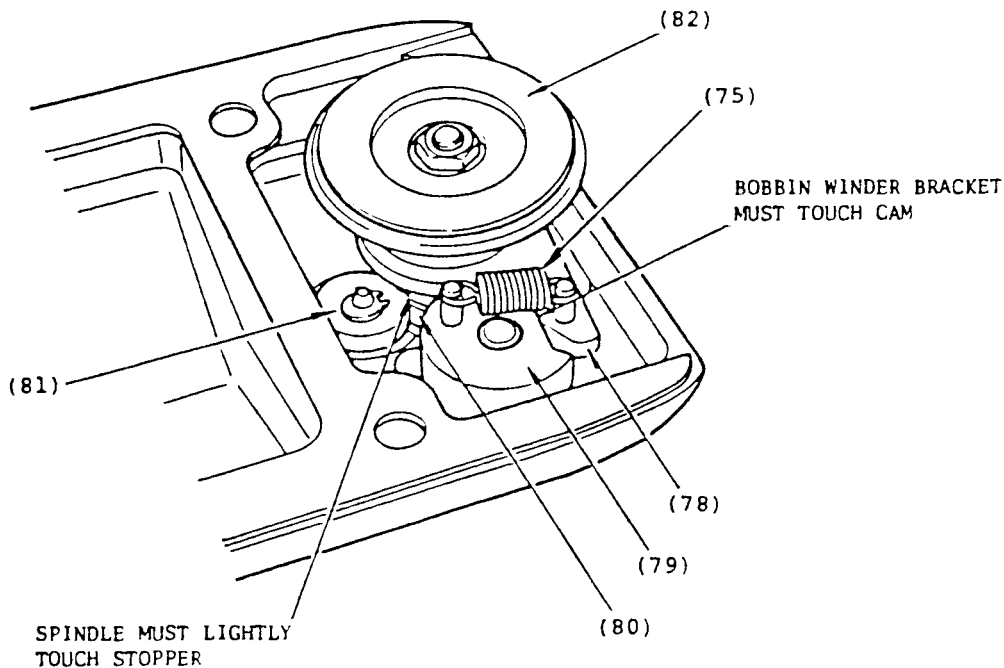

Fig. 38
2. Replace bobbin winder spring (75).
3. Check that the bobbin winder bracket (78) comes into contact with the actuating cam (79), Fig. 38, and spindle (80) lightly contact the eccentric bobbin winder stopper (81) and quickly stop its rotation when bobbin winder is released from engagement at completion of thread winding. If the spindle is not in contact, or if it is pressing too strongly against the stopper, turn stopper as required, until spindle is in proper contact with the stopper.
5. Engage bobbin winder for thread winding, turn machine pulley and check that bobbin winder pulley (82) is properly in contact with machine pulley to rotate the bobbin winder spindle (80). If adjustment is necessary, move machine pulley inward or outward as required, so that bobbin winder pulley will just sufficiently press against the machine pulley to rotate the bobbin winder spindle.